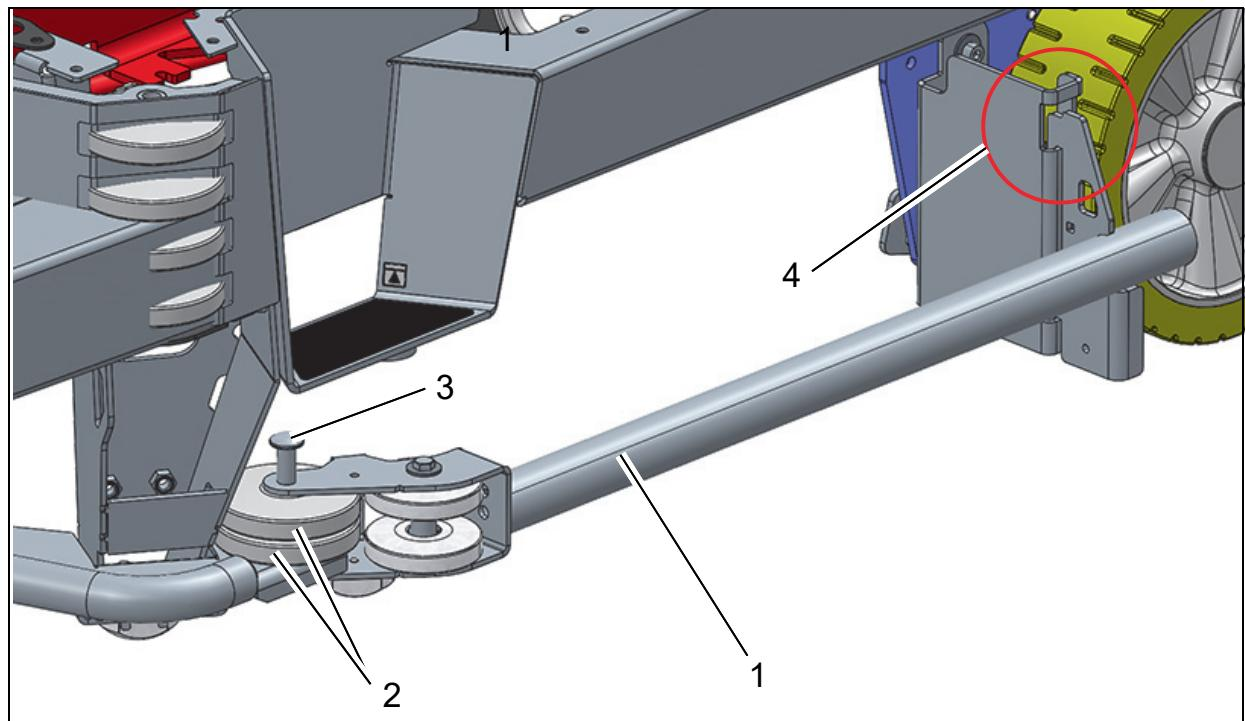

Fig. 3
1. Slide the left-hand lateral collision protection (Fig. 3/1) over the rollers (Fig. 3/2) and secure it with the mounting bolt (Fig. 3/3).
2. Hook the collision protection into the holder in the rear section (Fig. 3/4).